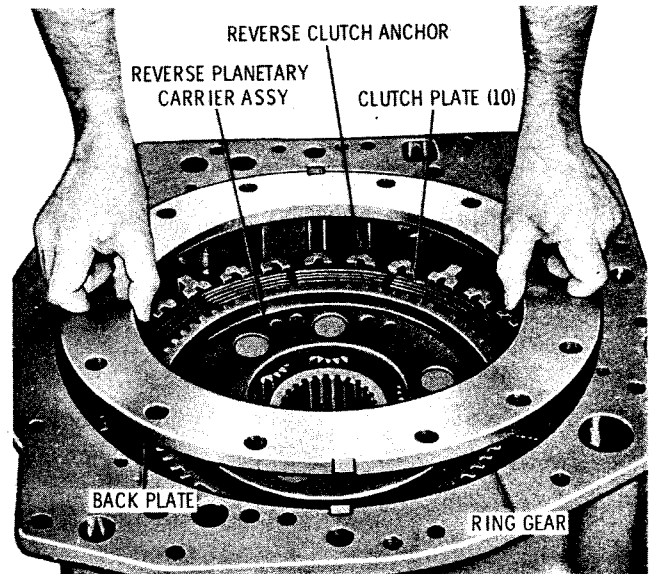

Fig. 5-27. Removing forward-and-reverse clutch back plate (5630 models)
(6) Remove the forward-and-reverse clutch back plate (fig. 5-27). Remove the reverse planetary carrier assembly. Remove the first six clutch plates. Remove the reverse ring gear. Refer to paragraph 6-17 for carrier rebuild procedures.
(7) Remove the four remaining clutch plates. Remove the reverse clutch anchor (fig. 5-27).